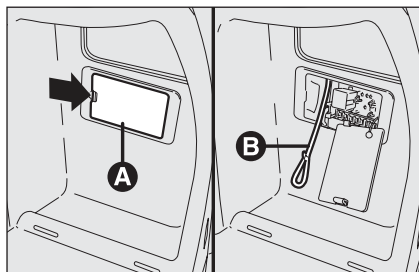

fig. 29
- ☐ open the fuse box lid **A-fig. 29** on the right side of the boot as shown by the arrow;